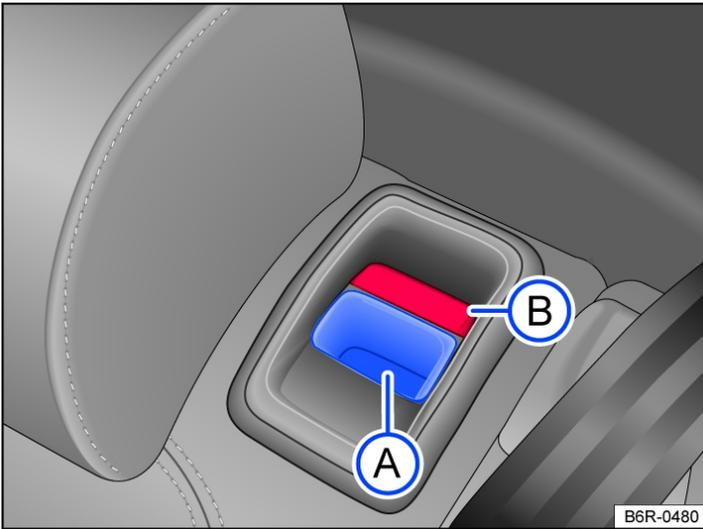

Fig. 1 Rear bench seat: release button (A); red marking (B).
- Pull the release button → Fig. 1 (A) forwards and fold the rear seat backrest forwards at the same time.
The rear seat backrest is unlocked when you can see a red marking in the button → Fig. 1 (B).
- The red marking on the release button → Fig. 1 (B) must no longer be visible.